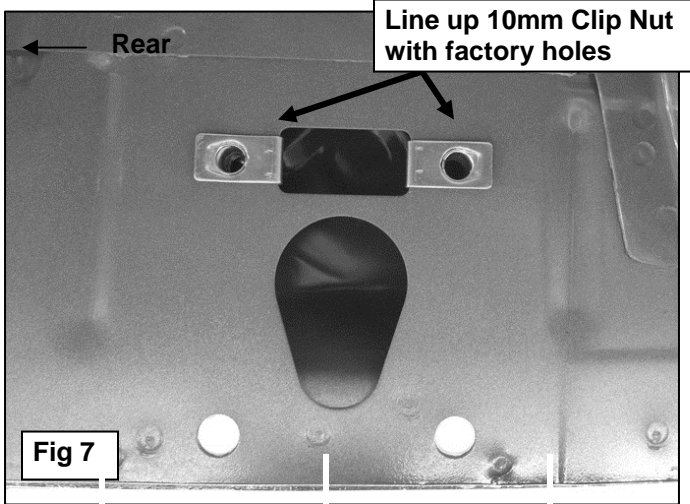

Fig 7
4. Move to the last mounting location at the rear of the cab. Repeat **Steps 2 – 3** for Rear Mounting Bracket installation, (**Figures 6 & 7**). **NOTE:** Each rear mounting location is made up of a rectangular hole with a round hole on each side and two holes through pinch weld, (**Figure 7**).